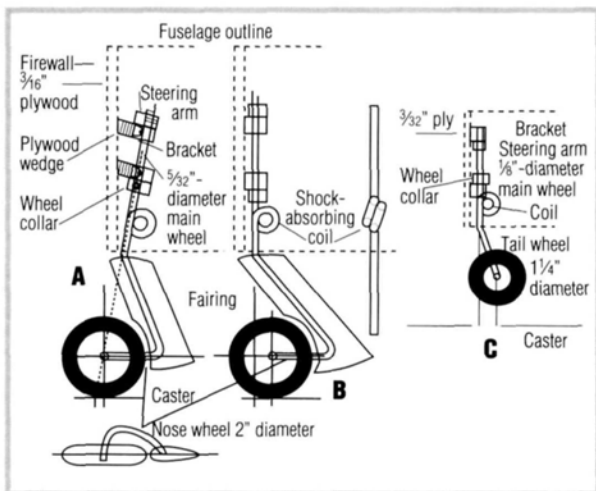

Figure 9. Nose- and tail-gear detail. Two arrangements for a nose wheel and one for a tail wheel.
Steerable nose- or tail-wheel gear should incorporate a modest amount of caster. A modest amount of offset, as in the case of a grocery-cart caster wheel, facilitates steering. Similarly, in the case of landing gear, such gear tracks well and permits easy steering. Too much offset invites "shimmy." An offset of 20 percent of the wheel's diameter is sufficient. Figure 9 illustrates two nose-wheel arrangements (A and B) and one for a tail wheel (C).
shown in Figures 10 and 5, with the tail-wheel leg supported internally by nose-wheel brackets bolted to plywood, as in Figure 9 C.
For a canard with a rear engine, the nose wheel should be well forward, as in Figure 13. Note that, in Figure 9, A and B, the shock-absorbing coil is totally enclosed in the fuselage to reduce drag.